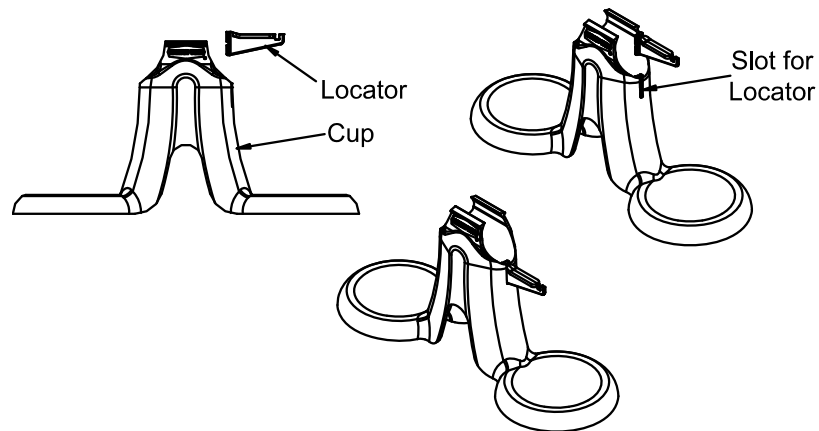

Figure 18. Advanti-Flow Cup Installation
1. Install the locator to the cup as shown, See Figure 18.